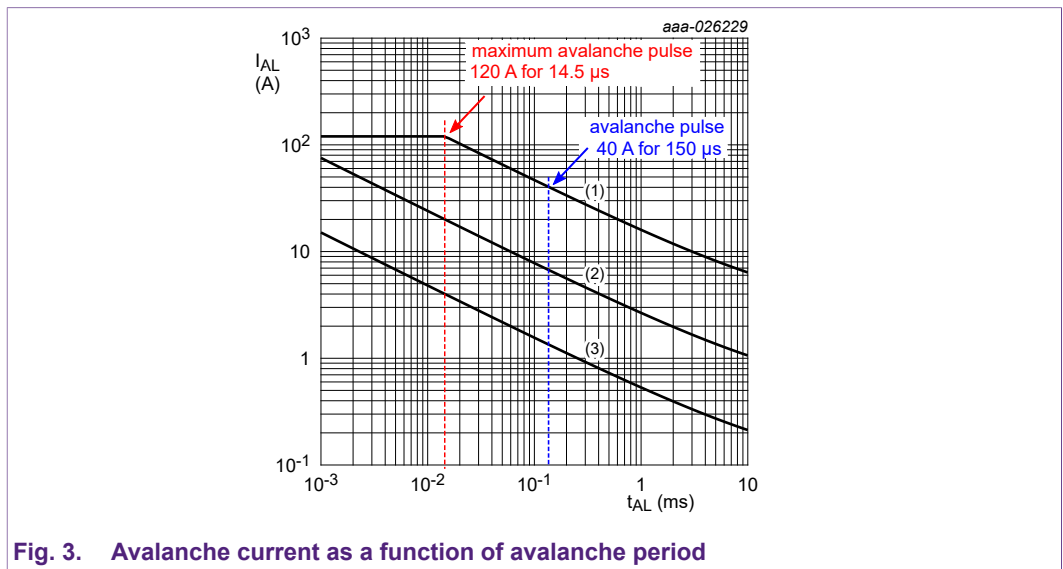

Fig. 3. Avalanche current as a function of avalanche period
- $E_{DS(AL)R}$ (repetitive drain-source avalanche energy) - the maximum amount of energy allowed in each avalanche event when more than one avalanche event occurs. The thermal constraints imposed for repeated avalanche operation is given by curve 3 of Fig. 3 in Section 2.4.3 of this document. There are also the standard thermal requirements in addition to the energy requirements for repetitive avalanche events. These requirements are assessed with the thermal characteristic curves as described in Section 2.5. Avalanche performance is covered in detail in application note AN10273.
Fig. 3 shows a maximum current of 120 A at 25 °C (the limiting values Table 3 confirms this value).
The time for the maximum avalanche energy can be read from Fig. 3 as 14.5 μs.